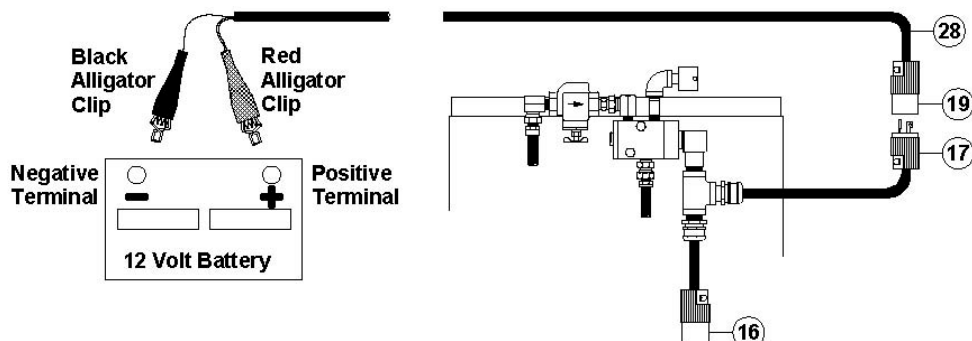

Figure 6.1 – Electric power connection
- 6.1.15. Connect the electric power cord alligator clips (#28) to the air compressor battery terminals or to another 12Vdc power source. See Figure 6.1.